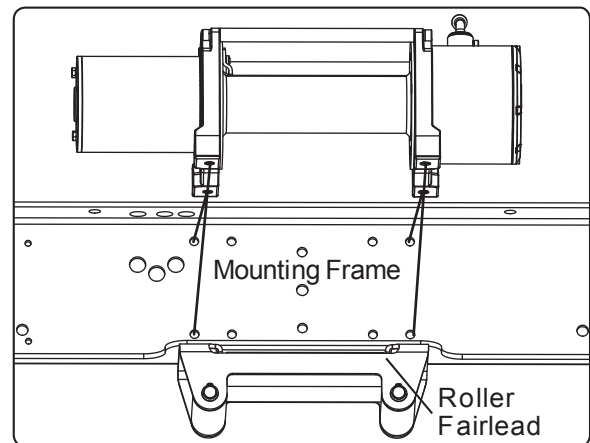

Fig2
4. **Mount Electric Winch to the Mounting Fame** using Bolts, Nut. All provided. (See Fig.2)